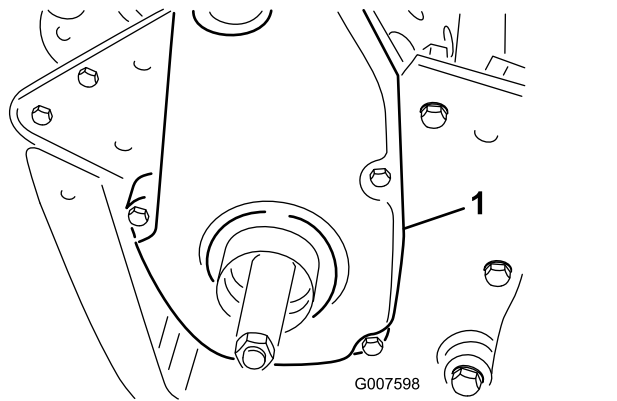

Figure 43
- 1. Remove the belt-cover mounting fasteners and the belt cover to expose the belt (Figure 43).